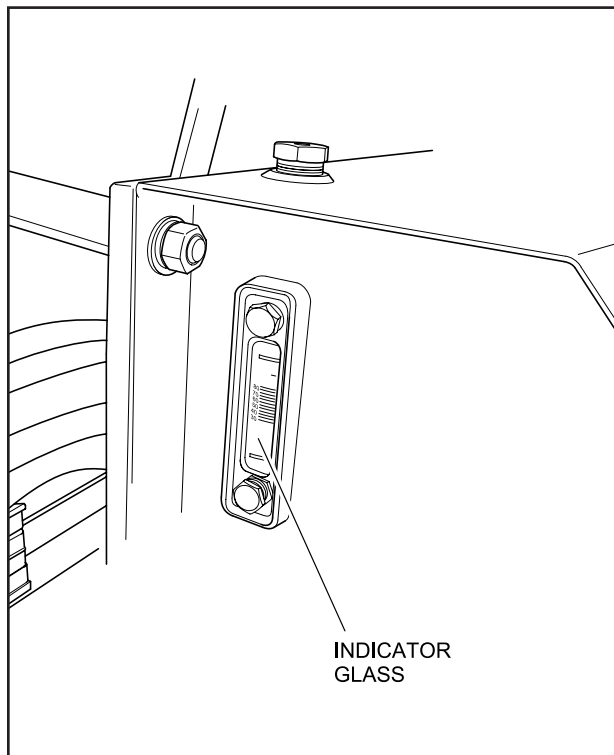

FIGURE 4-6. HYDRAULIC OIL TANK
Check the hydraulic reservoir oil level daily by observing the indicator glass located on the end of the hydraulic tank (see Figure 4-6). Check the oil level when the hydraulic oil is at "normal" operating temperature only.
Use the following procedures to change the hydraulic oil in the hydraulic oil tank (see Figure 4-6).
3. Install the hydraulic oil reservoir drain plug (see Figure 4-6), and tighten securely.
1. Remove the hydraulic oil filler cap (see Figure 4-6).